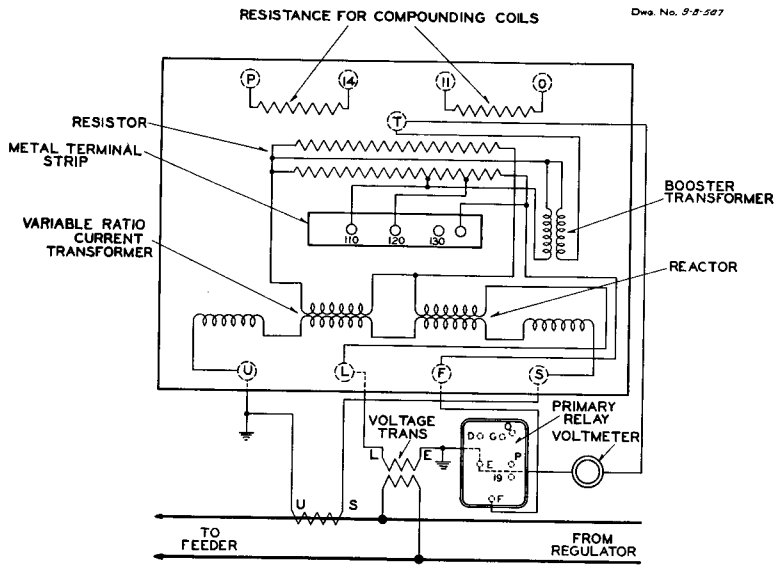

FIG. 13—DIAGRAM OF CONNECTIONS FOR TYPE RD COMPENSATOR
73. This compensator shown in diagram Fig. 13 is similar to Type RC except that the primary relay resistor and compensator resistor are separate although both are mounted in the same case. In ad-